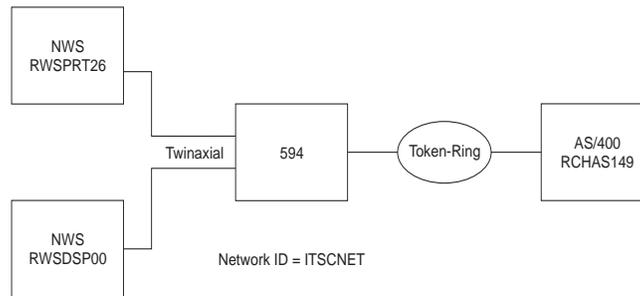

Fig. 9: AS/400 Token-Ring configuration
- Fig. 9: AS/400 Token-Ring configuration 6